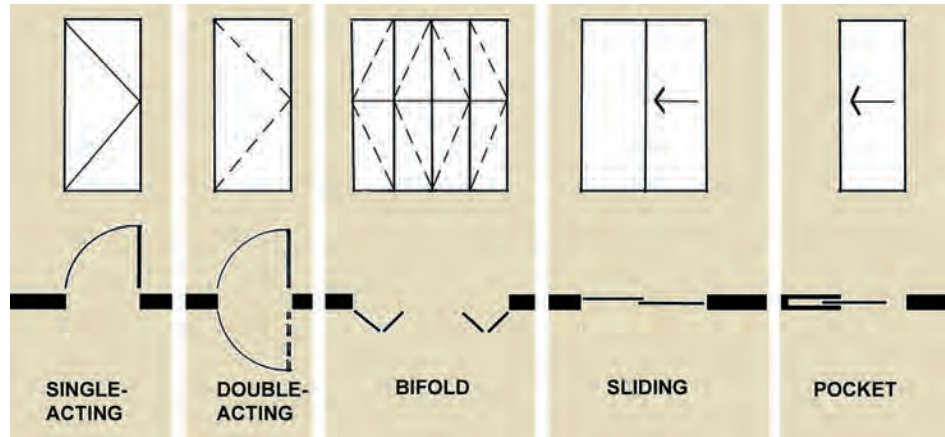
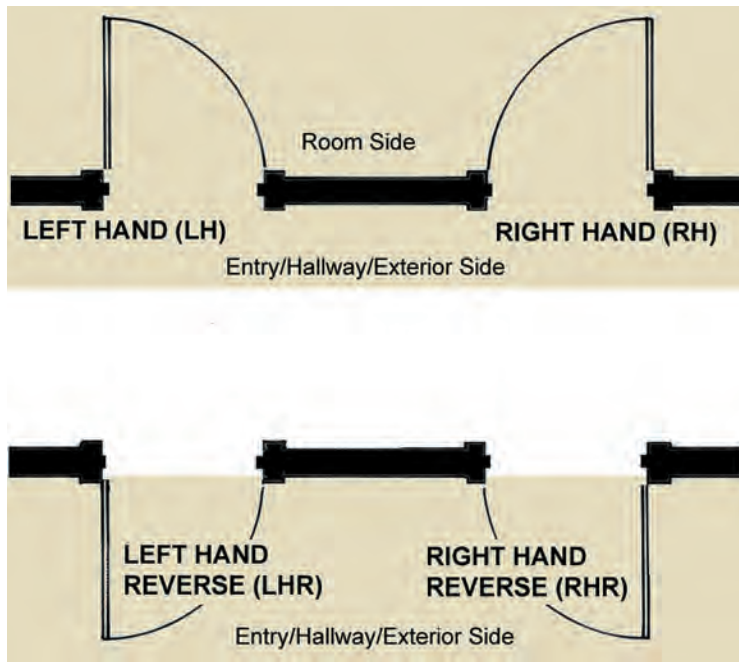

FIGURE 9.1 Doors are classified by type according to the way in which they open and close.
FIGURE 9.2 Single-acting doors are coded, or handed, by the direction in which they open into a room.
accessed. Because doors can open from either side as well as inward or outward, we need two terms to describe their operation (see Figure 9.1). The first term, *hand*, indicates the side where the hinges are located when you are standing outside. The second, *reverse*, is used to designate doors that swing outward. There are four hands: right hand (RH), left hand (LH), right-hand reverse (RHR), and left-hand reverse (LHR). These tags are simpler to remember if you imagine yourself facing the door from the outside (the side in which the key would be inserted; see Figure 9.2).